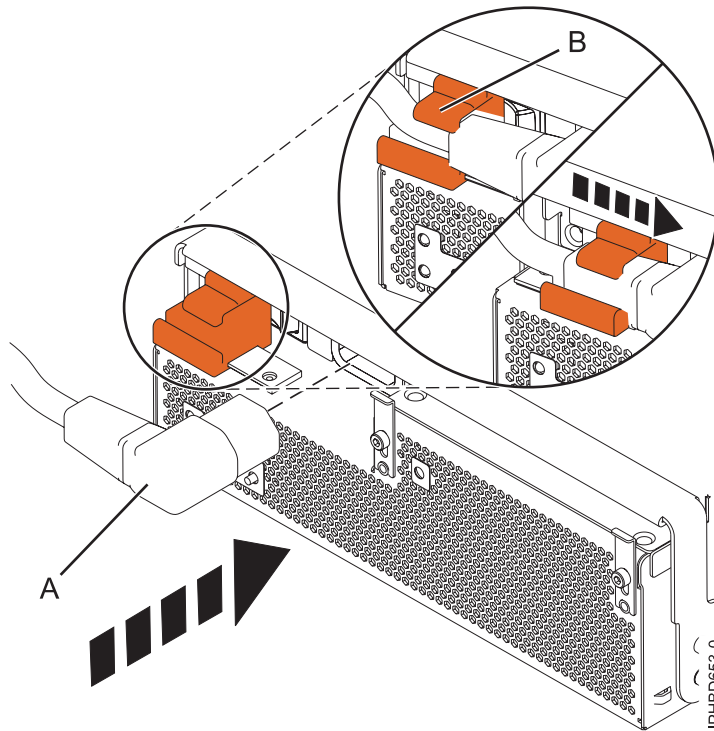

Figure 24. Connecting the power cable to the front of an expansion unit
7. Close the locking handle (A) until the power supply locks into position.
8. Reconnect the power cable **(A)** to the front of the power supply, and then slide the cable retention bracket **(B)** to the closed position to secure the cable as shown in Figure 24. By moving the bracket to the closed position, you turn on the power supply.